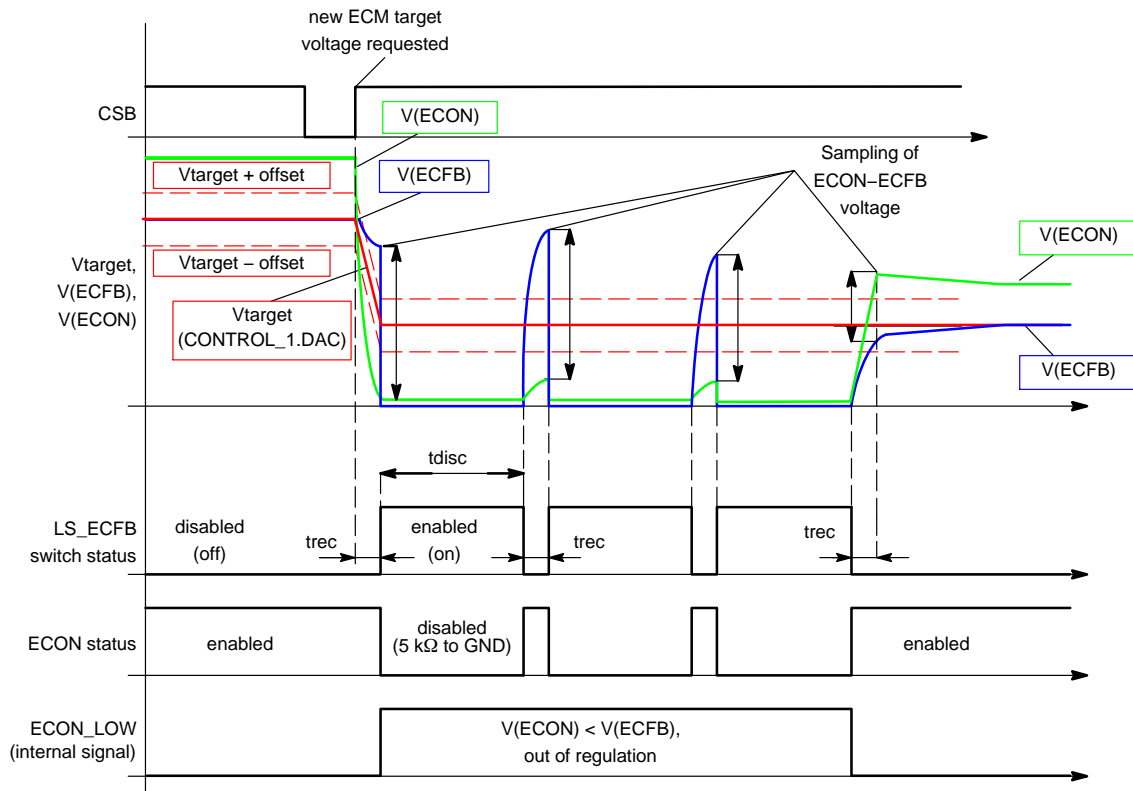

Figure 6. PWM Discharge Mode for ECFB
2. PWM discharge: In case of PWM discharge being activated (CONFIG.ECM_LSPWM = 1 and CONTROL_1.LS_ECFB = 1) (Figure 6):